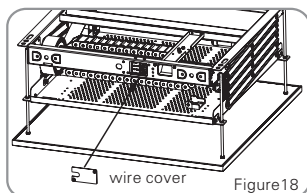
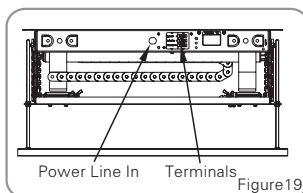

Figure18
Figure19
\*External IR/RF remote control(Optional, External Slot in the back of Lift)(Figure 18 –20)
12. Before contacting the power cable of projector lift, please take out the wire cover in the back of lift ( Figure 18). Then choose the control option and connect the controlling wires to terminals( Figure 19– 20). For humanization, link the power after fixing the controller of cables on a place for easy using.